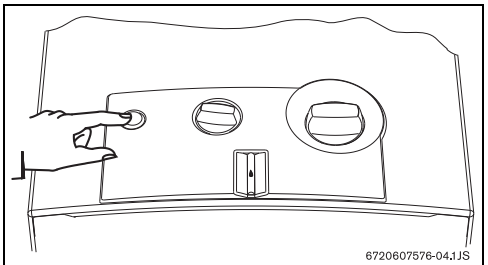

Fig. 6
- To do so, just turn on the switch (→Fig. 6).